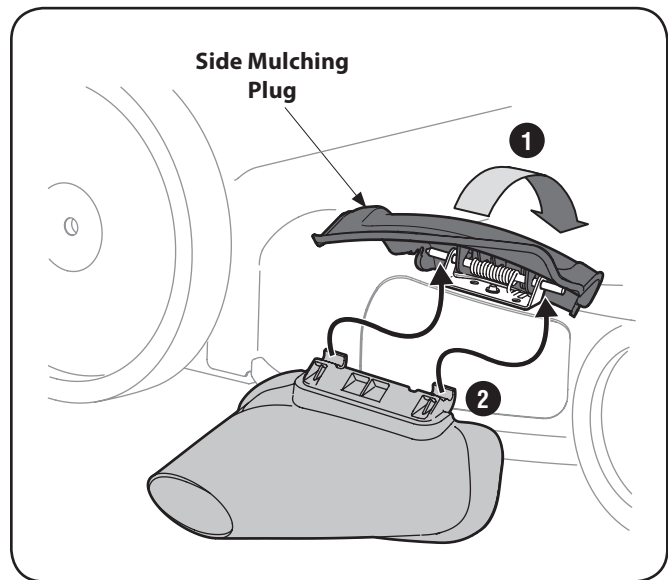

Figure 5-3
1. On the side of the mower, lift the side mulching plug. See Figure 5-3.